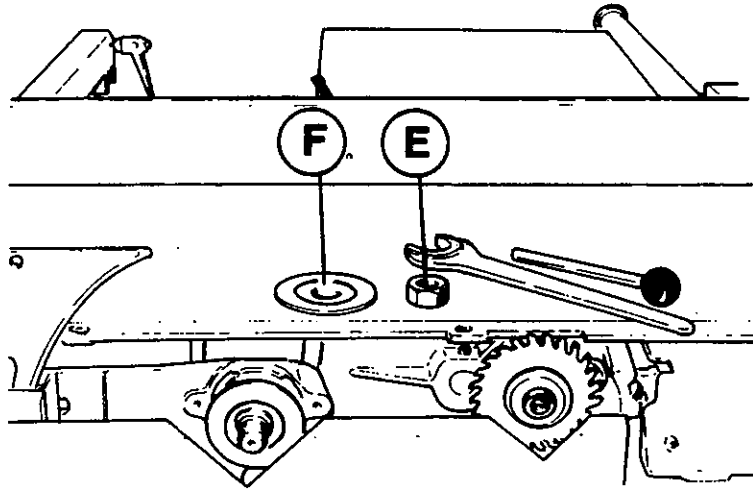

Fig.14
Unscrew nut (E fig.14), and one flange (F).